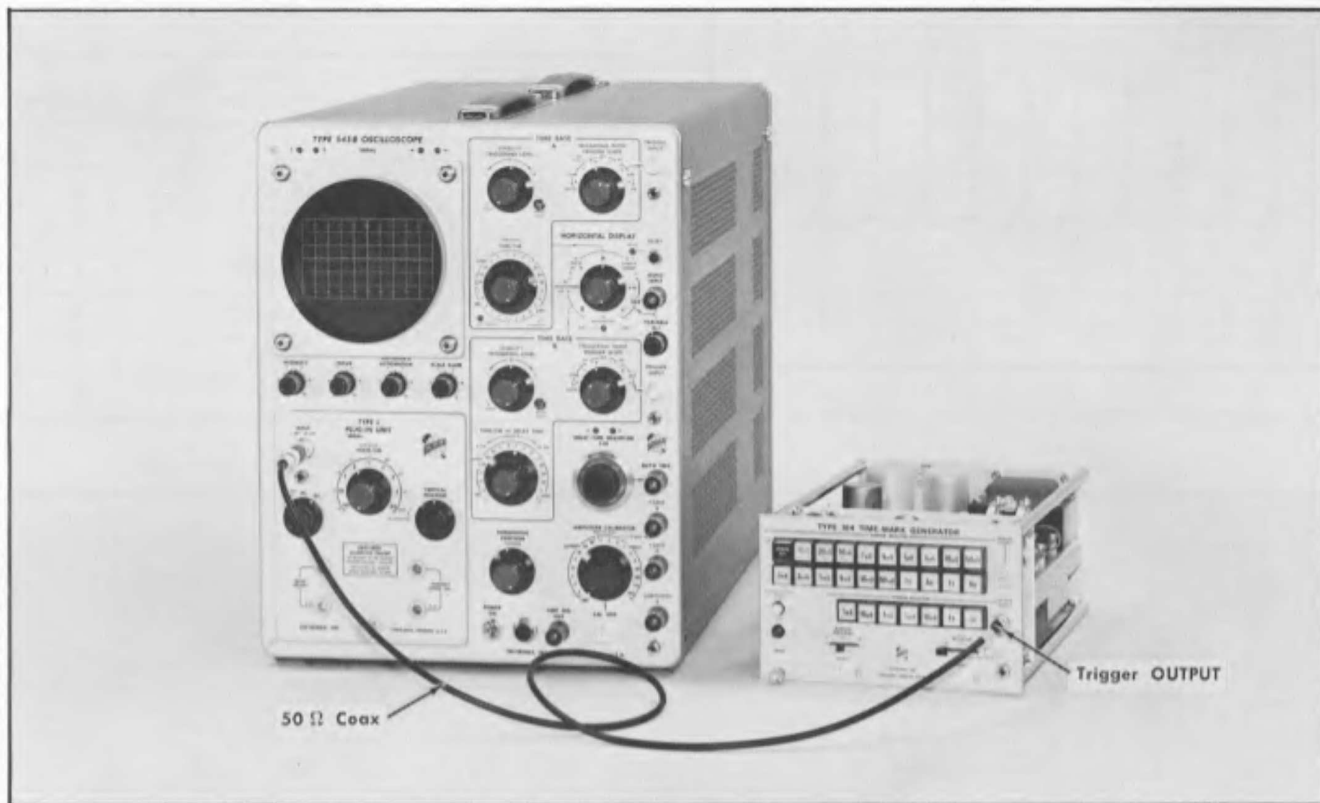

Fig. 6-15. Test equipment setup for checking trigger output amplitude and timing interval. Step 9.
- b. Test equipment setup is shown in Fig. 6-15.